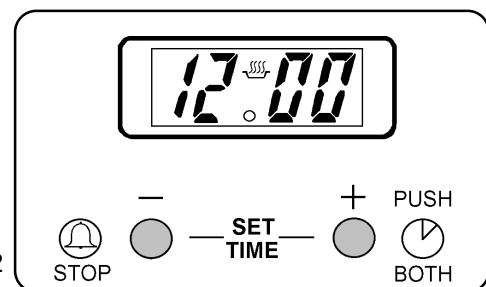

Fig.3
Within five seconds, press and hold either button (1) to decrease or button (2) to increase the time until the correct time of day on the 24 hour clock is reached, e.g. 14:30. The cooking symbol () will go out. See Fig. 3.